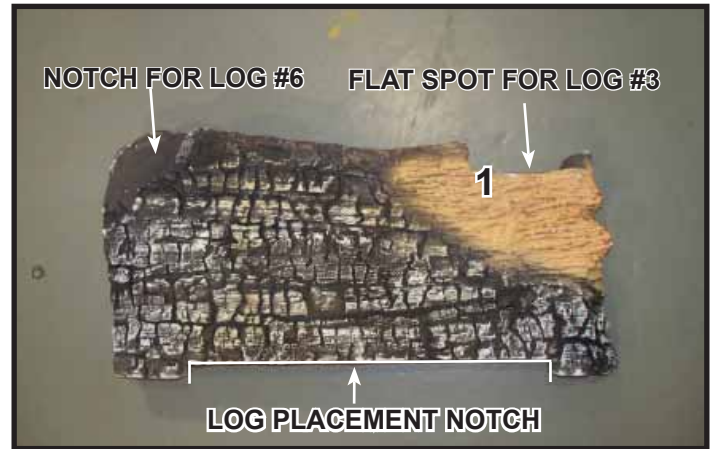

Figure 2.
**Log #1 (2280-701 for TRUE-36, 2281-701 FOR TRUE-42):** Locate log placement notch on the bottom of log #1. See Figure 2. Mate outer notches on the bottom of Log #1 with the left and right grate tines. Slide Log #1 toward the rear of appliance until back side of Log #1 contacts the log placement tabs. See Figures 1-3.